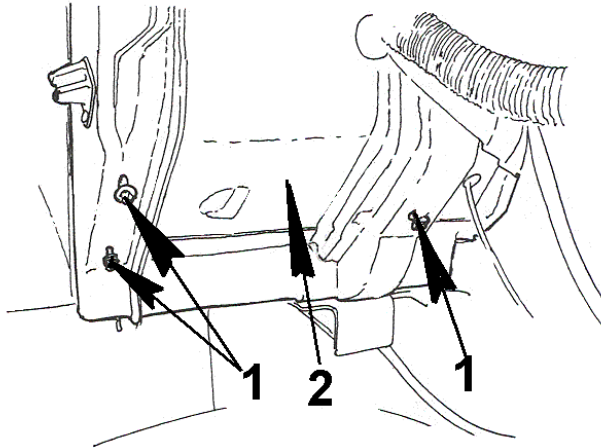

Figure 97 Fender Extension Alignment
1. With hood in the tilted position, locate the fender extension mounting holes on the cowl lower structure (Figure 97, Item 1).